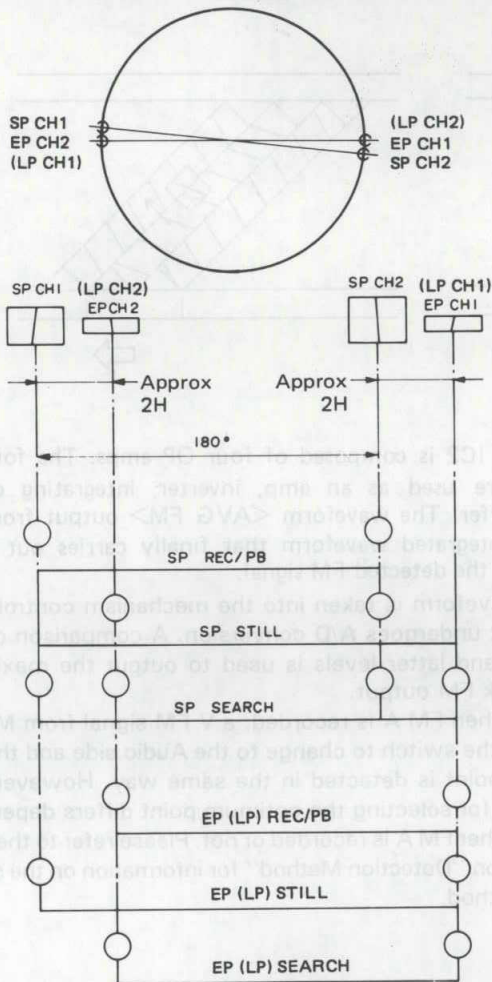

Fig. 4-2-17 DA4 head
The video heads are mounted on the upper drum as illustrated in Fig. 4-2-17. The SP CH-1 and EP (LP) CH-2 heads are separated by only 2 H with respect to the tape, while the SP CH-2 and EP (LP) CH-1 heads are similarly located in opposite positions at an angle of 180° .